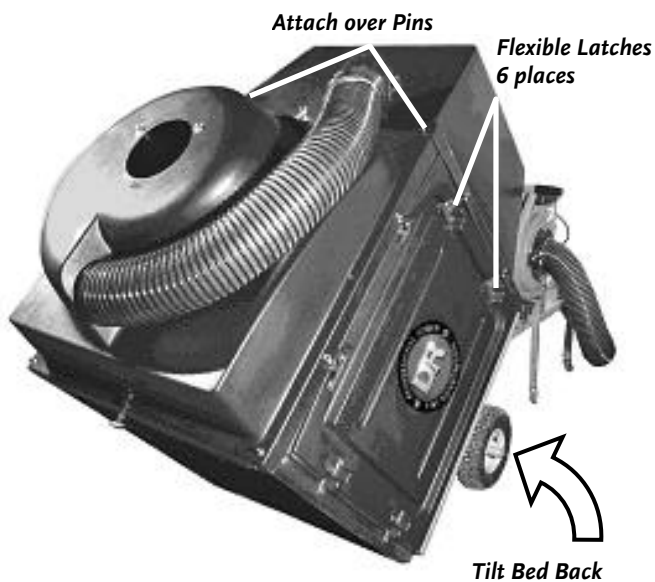

Figure 12
5. Attach the front enclosure panel on the protruding support pins and fasten the sides, top and bottom using the six (6) flexible latches (**Figure 12**). The mounting holes are located on top of the panels.
Tip: For ease of attaching the front box cover, pull the Dump Lever and tilt the body back. Set the front box cover over the protruding pins, one side at a time, making certain that the six (6) flexible latches are on the outside of the panels (**Figure 12**).